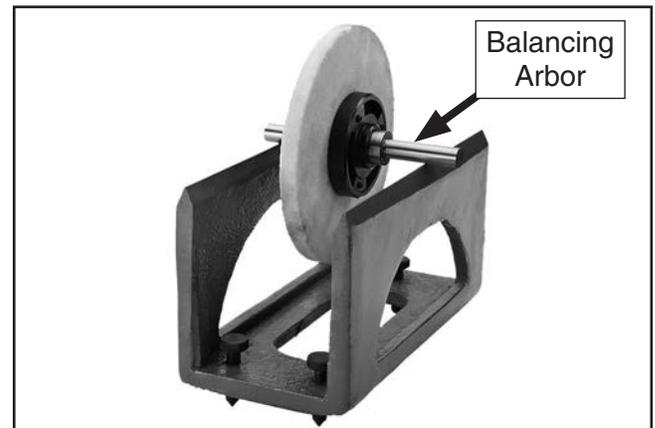

Figure 32. Wheel assembly on balancing base.
6. Using a slightly-oiled lint free cloth, wipe mating surfaces of balancing arbor and internal sleeve taper perfectly clean, then push them together (see **Figure 32**).